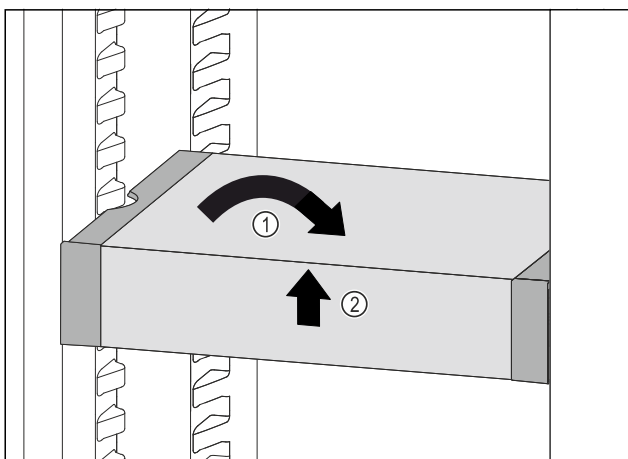

Fig. 113
- Set VarioSafe straight. Fig. 113 (1)
- Lift VarioSafe at the front. Fig. 113 (2)